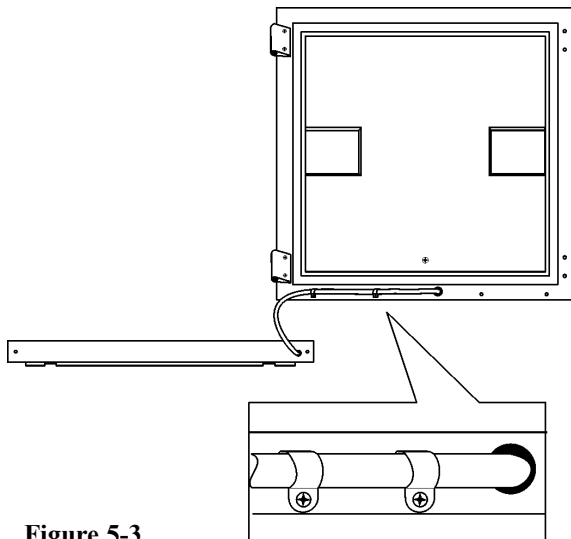

Figure 5-3
6. Rotate the kick plate and attach the door heater cable with the clips as shown in Figure 5-3. The insert in the illustration shows the proper positioning of the clips.